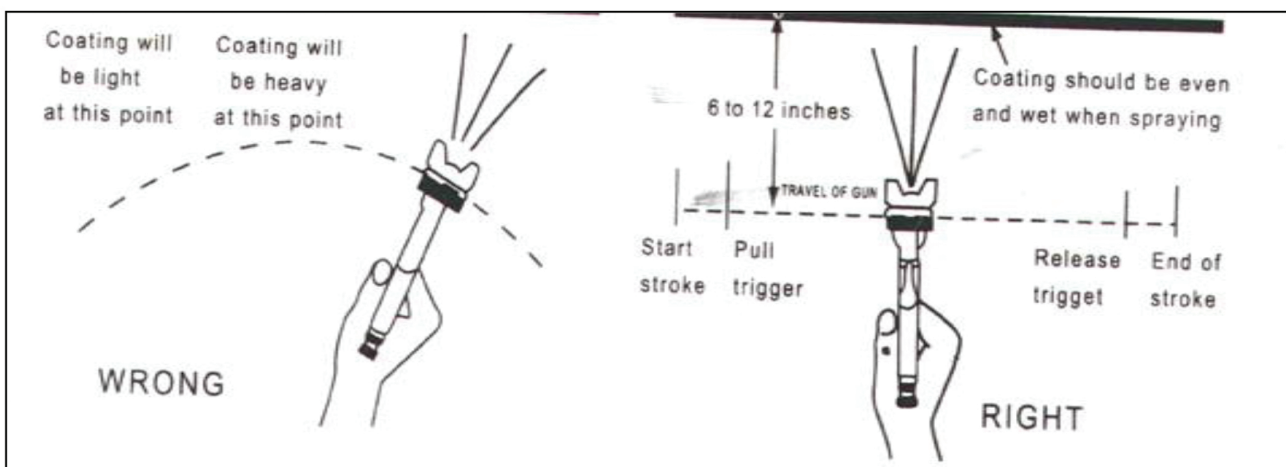

Fig 5
- When painting, Grip the gun keeping perpendicular with spraying area then move it parallel for several times, the trigger should be locked before the stroke ended. Keep the appropriate distance of 6-8 inches between gun and raying area, according the atomization pressure and work demand. Just like the fig5 show.